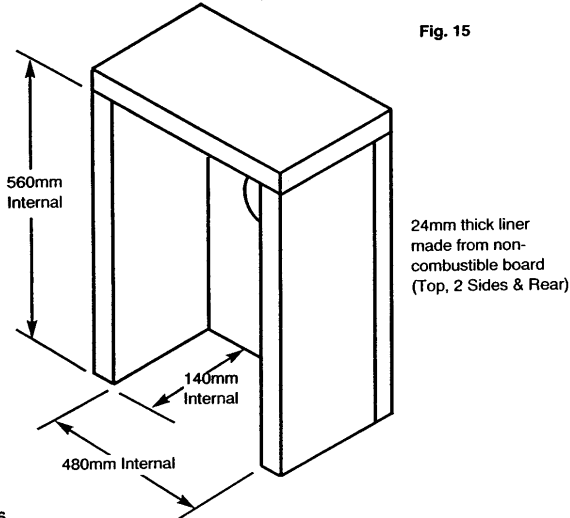

Fig. 16
1. A suitable liner should be made to enclose the fire (Fig. 16). This should be fitted within the false fire surround. It should be 24mm thick and be of Supalux or similar non-combustible board.